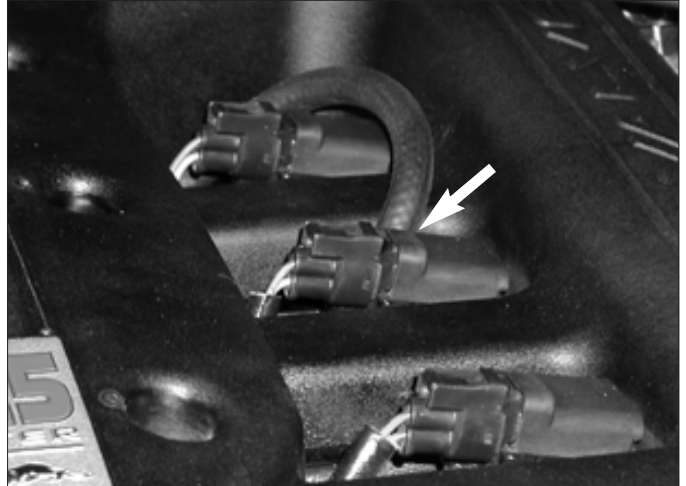

Fig. 9-2
- B. The fuel line from the discharge tube assembly will need to be routed at this point. The fuel line needs to be routed along the firewall (being careful to avoid any exhaust or potentially hot surfaces), under the back of the manifold, and to connect with the fitting on the side of the fuel rail (see Fig. 9-2).